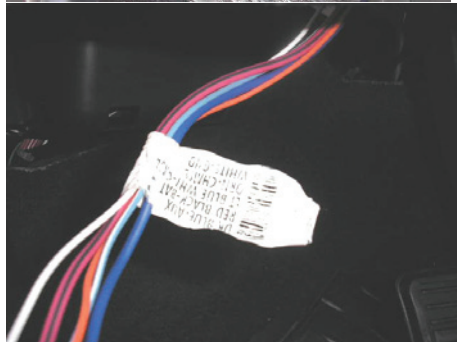

Figure 3
3. Match vehicle harness label circuit functions to the trailer brake controller jumper harness functions (Fig. 3)